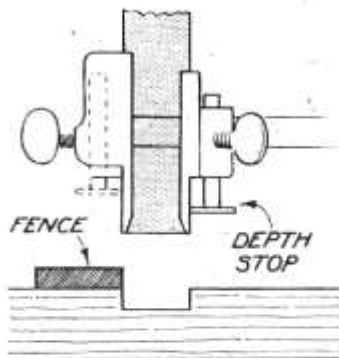

FIG. 3. TRENCHING ACROSS THE GRAIN
Another point in the setting of the plane is the depth stop (E). Since the main stock bears against the straight-edge, it is more convenient if the depth stop (E) is fitted to the sliding section as shown in Fig. 3. It is apparently not intended to go here as, although it fits in the hole, the face of the stop does not clear. Two or three rubs with a file, however, along the side of the stop enable it to pass easily, and it will be found more convenient in that position. The only alternative is to fit it to the main stock, and set it to the groove depth plus the thickness of the straight-edge or fence (see dotted lines in Fig. 3). In this case it is essential that the straight-edge is of the same thickness throughout.